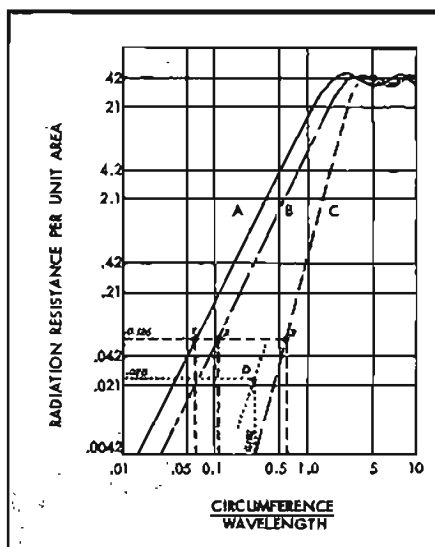

Fig. 4. Radiation resistance for pistons in (A) infinite baffle, (B) small box, and (C) free space.
Now this radiation resistance is not a simply written quantity. It is a function of the size of the piston, the frequency of operation, and the condition of baffling. This relationship is shown in Fig. 4 for three general conditions: (A) where a piston is vibrating in the plane of an infinite baffle, (B) where it is vibrating in an infinitely long tube with the piston terminating one end of the tube, and (C) where the piston is completely unbaffled. Curve A is frequently seen in the literature, and equally as often applied in practice. To clarify later discussion however, a few words about curve (B) in this figure would be germane. While the values represent the resistive loading upon a vibrating piston at the end of an infinitely long tube, it may be applied to any type of structure where the rear radiation of the piston is completely absorbed but where the front face of the piston is not integral with any other baffling surface sharing the same plane. Beranek¹ says
Curve (C) of Fig. 4 is seldom confronted in practice, for one hardly ever thinks of operating a speaker in an un-baffled condition. But this particular parameter is precisely the set of conditions with which we will be dealing in the direct explanation of the system.
But to continue our thesis concerning the unbaffled radiator, we have seen that a small sealed box is by no means an infinite baffle in an acoustic-radiation sense. The radiation from the piston falls back and folds around the box, which completely alters the character of the load upon the diaphragm. Actually, for a given frequency below the transition point where the piston circumference to wavelength ratio is less than 2 (see Fig. 4), the radiation impedance of the boxed piston is essentially half of that when placed in a true infinite baffle, with essentially half of the radiated power of the latter. In the case of the small closed box, the piston radiates into a "full spherical" space of 4π steradians⁴ by diffracting around the box. In the case of the true infinite baffle, the baffle divides space into two parts with the piston radiating into one of these "half spaces" while at the same time the baffle creates an image of the sound source placed within it to be re-radiated along with the original sound power thus doubling the total sound power, as against that obtained from the small box type of radiator.
In full recognition of these baffle complications and configurations, and furthermore whetted by the desire to sharpen the low-frequency radiation directivity, we determined to free ourselves of the baffle problem entirely, and the only way to accomplish this was to provide a completely free-space piston vibrating without any baffle restriction whatever. Now off hand, there should be a virile chorus of objections that such a system just cannot work, that doublet radiation would immediately cancel out all radiated power for those frequencies where the wavelength was large compared to the piston size. Certainly, there are valid objections, but only insofar as they may be numerically verified. The fact of the matter is that from the set of curves of Fig. 4, it is possible to put a straight edge along any one horizontal level indicating any desired unit radiation resistance value and pick off as at points (1), (2), and (3) the circumference-to-wavelength ratio for a piston in an infinite baffle, a second value for one in a small box, and a third value for one completely unbaffled. From these values we could then determine, for a fixed frequency, a rising progression of different piston sizes to produce a given sound pressure for the conditions of infinite baffling to no baffle at all.